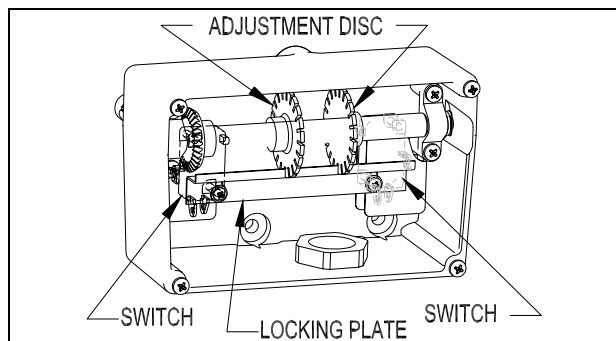

Figure 7-2. Screw-Type Limit Switch Adjustment (Wires Not Shown For Clarity.)
- b) Procedure. Remove load from the hook. To disconnect the geared limit switch refer to Figure 7-2. Remove the limit switch cover then loosen the two (2) screws holding the
Position the lower block three inches (3") below the point where the block operated limit switch is activated. The geared limit switch shall be reconnected by sliding the locking plate back into position ensuring slots on adjustment discs are fully engaged and tightening locking plate screws to 4 in-lbs. (See Figure 7-2). The geared limit switch must then be tested.
This limit switch has a rotary screw driven by a gear reduction that is coupled to the end of the drum shaft. Adjustment discs operate the contacts of separate switches, one for the hoisting circuit and one for the lowering circuit. The switch assembly must be wired in accordance with the appropriate wiring diagram, which is shipped with the hoist. Instructions for adjusting limit switch are inside cover and are repeated below (see Figure 7-2).